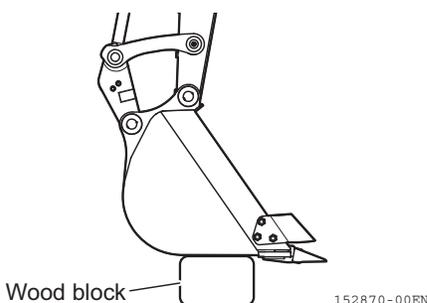

Fig. 8-24
1. Place wood blocks on a level ground and lower the bucket to the ground with its bottom kept level as shown in Fig. 8-24.